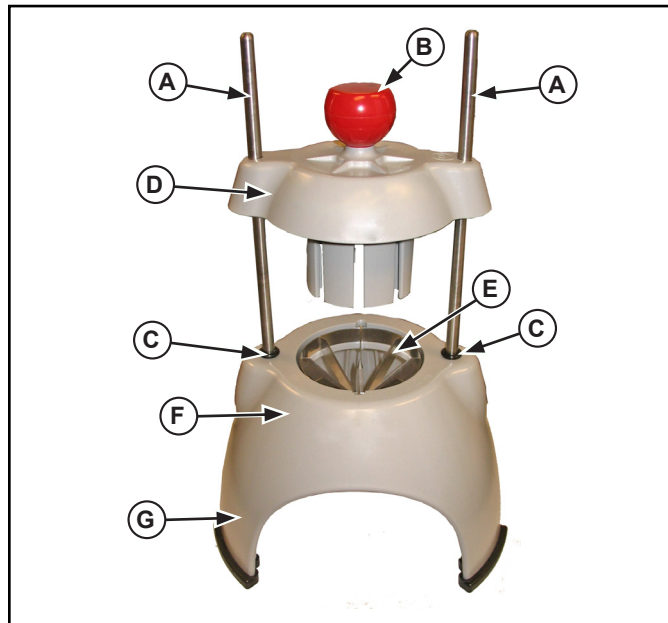

Figure 1. Features and Controls.
3. Before each use, check for proper blade alignment. Slowly set the pusher head (D) onto the blade assembly (E). See Figure 1. They should slide together with no obstructions. If there are obstructions, verify they are a matching set. Remove the obstruction.
6. Lift the handle (B) and place the food on the blade assembly (H) (center spike for wedge blades).
7. Remove hand from the blade assembly (H) area and place that hand on one of the legs (F).
1. Slide the pusher head assembly (D) off the rod guides (A). Figure 1.
2. Remove the screws securing the blade assembly (E).
3. The blade assembly (E) is best cleaned by forcing water under pressure through the blades from the unsharpened side. If necessary, use a nylon bristle cleaning brush to push food particles out from the unsharpened side of the blade assembly (E).
7. Install the blade assembly (E) so the tabs on the blade assembly slide into the groves of the base assembly (F).
2. Remove the pusher head assembly (D) by sliding it off the rod guides (A). Figure 1.
3. Remove the screws securing the old blade assembly (E) and discard blade assembly and retain the screws.
4. Install the new blade assembly (E) so the tabs on the blade assembly slide into the groves of the base assembly (F).